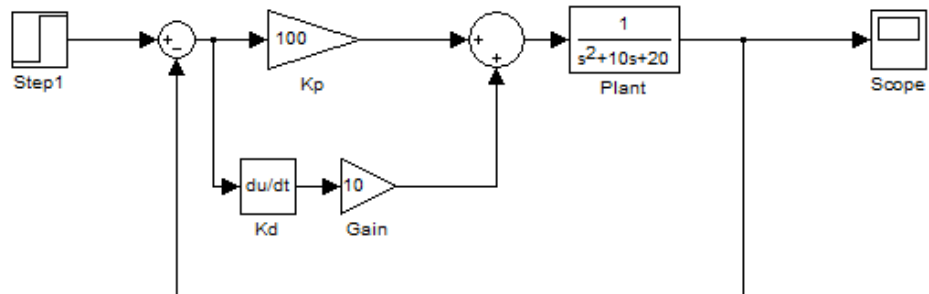

Fig. 10. Closed loop system with PD controller
- l. Now prepare a PD controller for a closed loop system as in Fig. 10 and plot the waveform for different K_d values starting from 10 to 20.